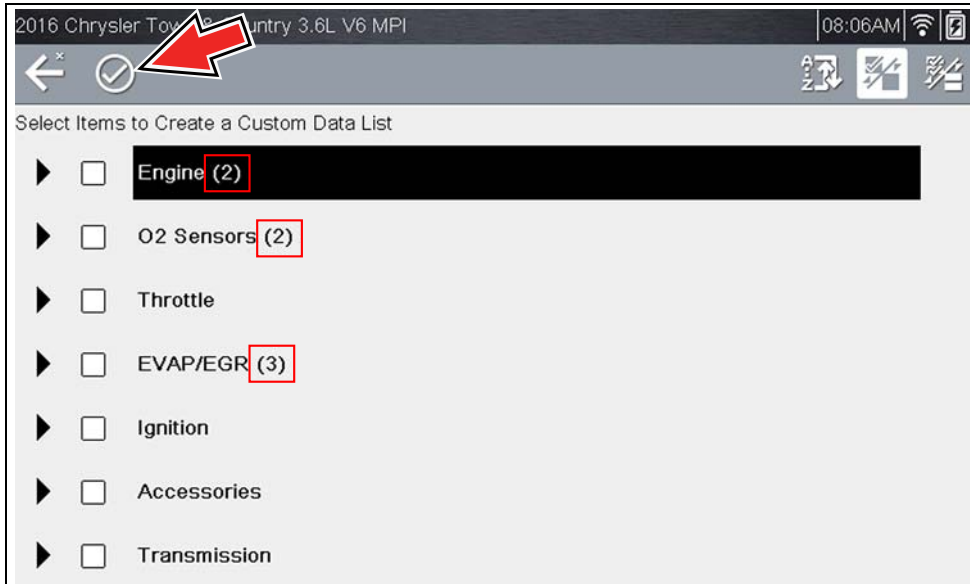

Figure 6-18
3. Once you have selected all the PIDs you need (Figure 6-18), to view the custom list, select the **Accept** icon (Figure 6-18).